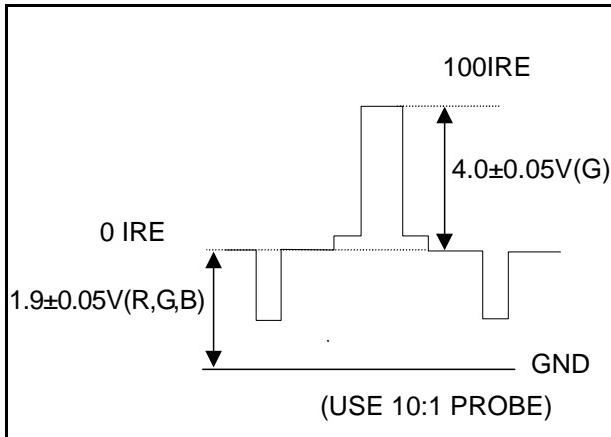

Figure 56. 480P Composite Adjustment
2. Adjust B0d data (Sub Bright for 480P & 170M) to obtain $1.9 \pm 0.05V$ at TPX5 (see the Figure 56).
3. Adjust B0c data (Sub Contrast for 480P & 170M) to obtain $4.0 \pm 0.05V$ at TPX5 (See Figure 56).
4. Adjust C12 Data (Blooming DC for 480P) to obtain $4.0 \pm 0.05V$ at TPX5 (see Figure 56).
5. Adjust C6 data (YUV R-cut off) to obtain $1.9 \pm 0.05V$ at TPX4 (see Figure 56).
6. Adjust C7 data (YUV B-cut off) to obtain $1.9 \pm 0.05V$ at TPX6 (see Figure 56).